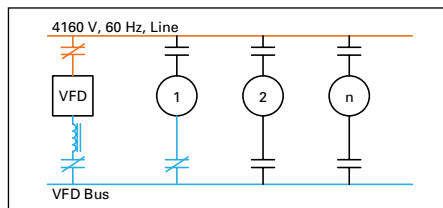

Figure 10.4-16. VFD Starts Motor #1
- VFD closes input contactor (**Figure 10.4-16**)